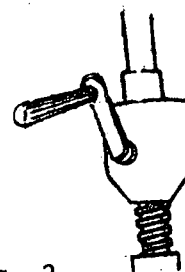

Fig. 3
- e) Adjust the lower right arm to the necessary height by cranking the levelling box (Fig. 3).